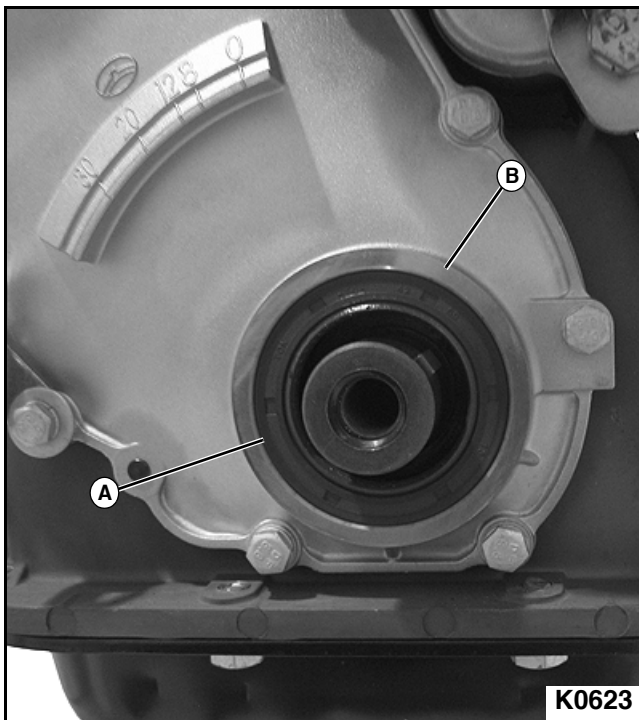

Figure 3-90
1. Drive front crankshaft seal (A) into timing chain cover (B) with seal driver or equivalent tool until seal is flush with timing chain cover. **See Figure 3-90.**